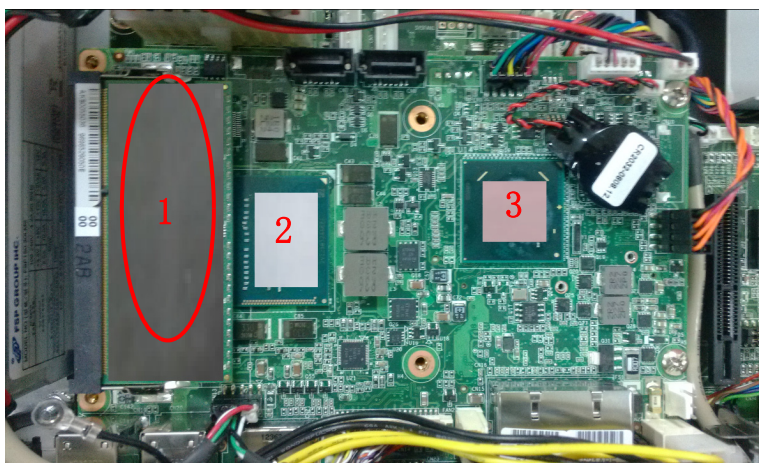

Figure 2.14
6. Insert the memory card in the slot, and take out the thermal pads of the CPU, QM77 and memory and place them in the correct locations (see Fig 2.14), then install the CPU cooler to complete the memory installation.